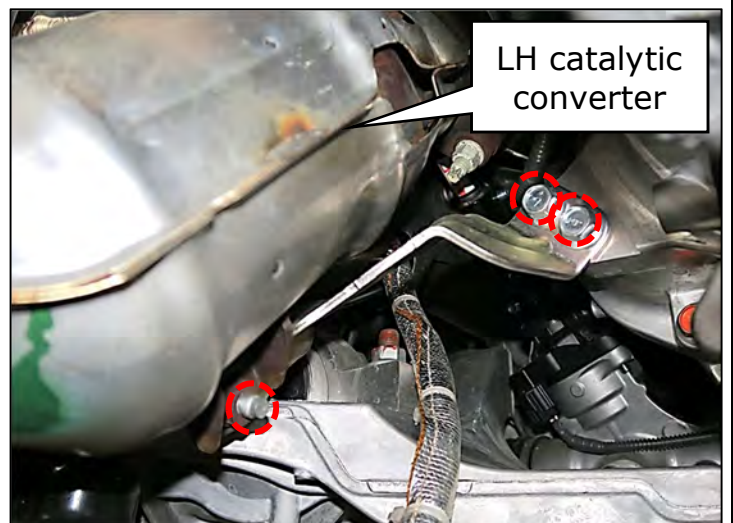

Figure 47
- Remove the (3) bolts shown in Figure 47